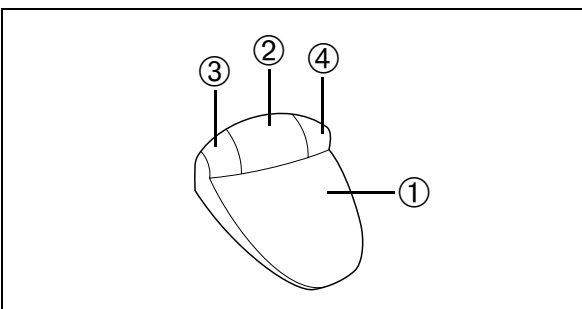

Fig. 33
You switch between dry and spray mode by tapping the right-hand button ④ (Fig. 33) on the foot control.